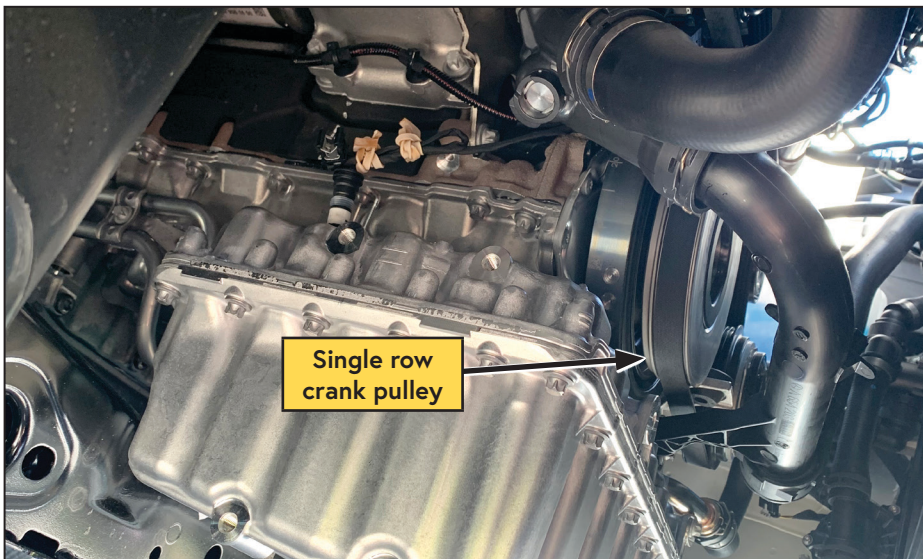

Figure 8 — Identify crank pulley
- Determine whether the vehicle is equipped with the dual row crank pulley (Figure 8).